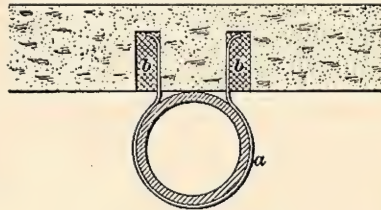

FIG. 35
53. The pipe may also be secured against the face of a stone wall by means of a wrought-iron band *a*, as shown in Fig. 35. Two holes *b, b* are cut in the stone, and the ends of the band are calked in the holes with lead. This style of fastening is neat and reliable.